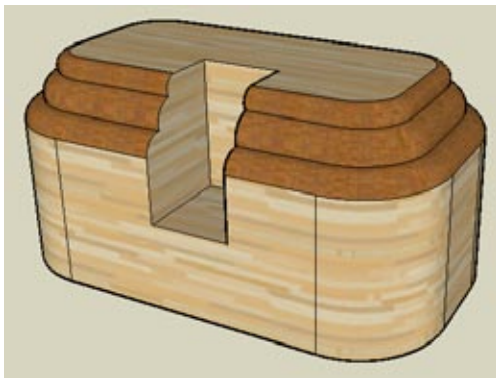

Figure 4-6
4. Select the Follow Me path. To do so, you could click each individual edge, but an easier way is to double-click the top face and then Shift-click to unselect the top face *plus* all four edges that compose the notch. Then use Follow Me to extrude the face around the remaining selected edges (Figure 4-6).